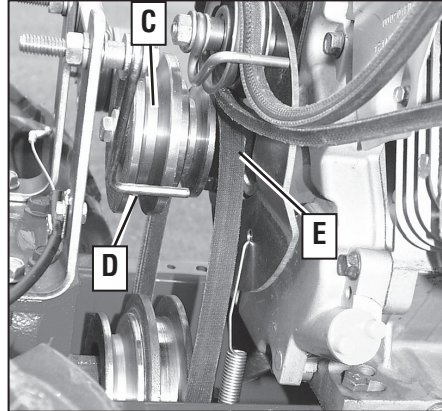
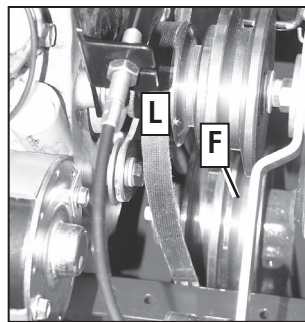

Figure 5-18
Figure 5-19: Left-side view.
5. Slide the belt off the engine pulley (C, Figure 5-18), away from engine, out from under the belt guide (D), and completely off the pulley.
6. Slip the belt off the front of the transmission pulley (F, Figure 5-19).
4. Insert the bottom half of belt into the smaller, rear-most groove of the transmission pulley (F, Figure 5-19). Now slip the top half of belt under the belt guide (D, Figure 5-18) and onto the large groove of engine drive pulley (L, Figure 5-19).